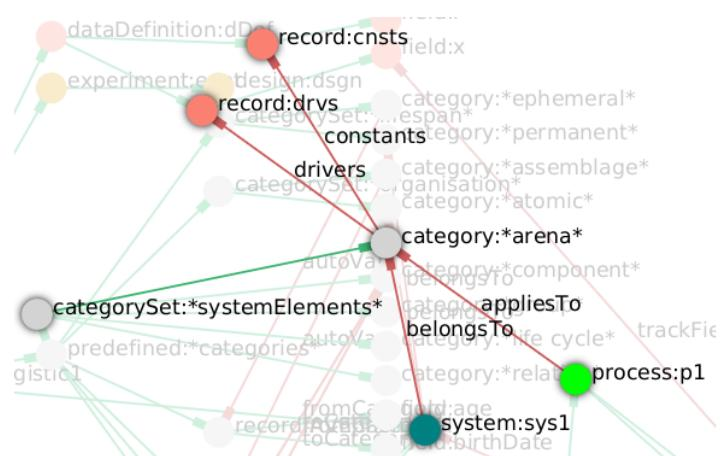

Figure 30. The specification of the constants and drivers for the arena, a category to which the only component in this tutorial (aka `system:sys1`) belongs.
8. Right-click again on `category:arena*` and select New edge → `drivers` → `record:drvrs` (Figure 30).